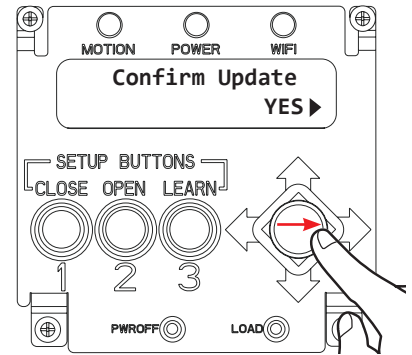

Figure 36
6. Confirm the update by pressing joystick to the right. (Figure 36)